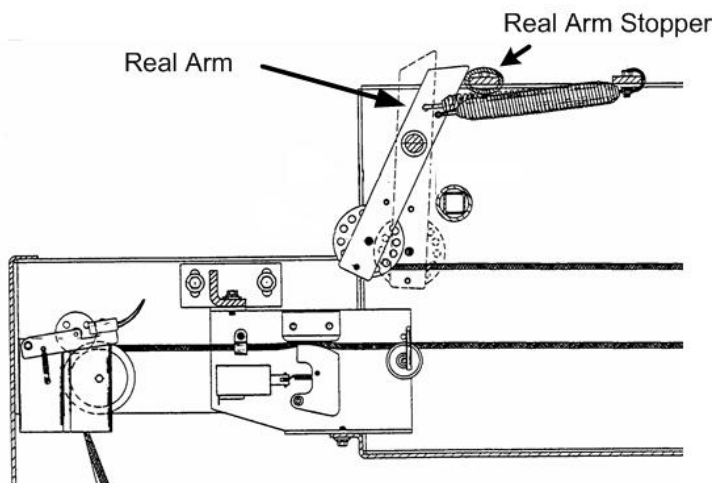

Figure 2-4, Reel Arm Position
4. Adjust the strings with the take-up reels so that the pins are stable within the centering rings and are at the same height, and so that the reel arms are still touching the upper reel arm stopper (see Figure 2-4).